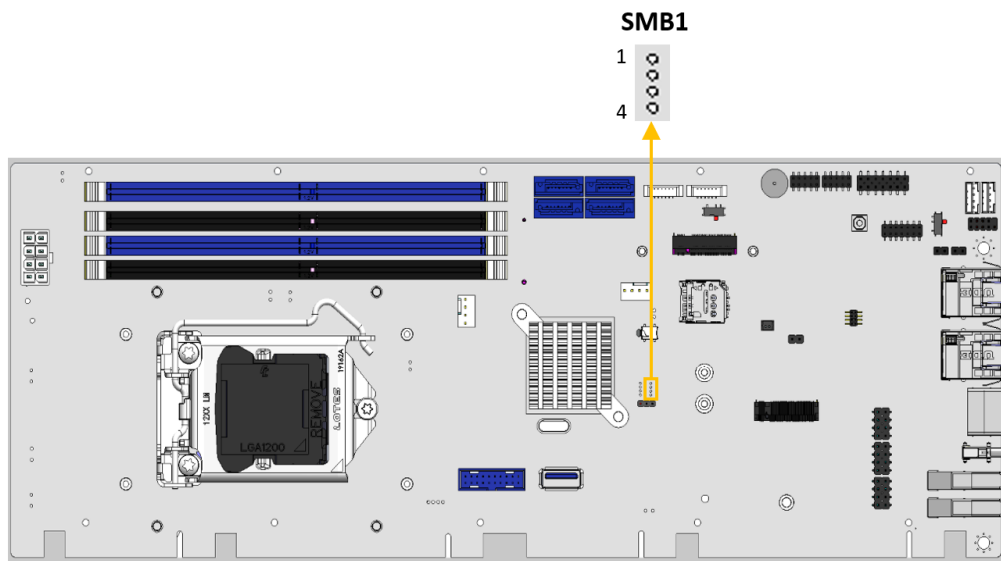

Figure 3-12: SMBus Connector Location
- CN Location:** See Figure 3-12